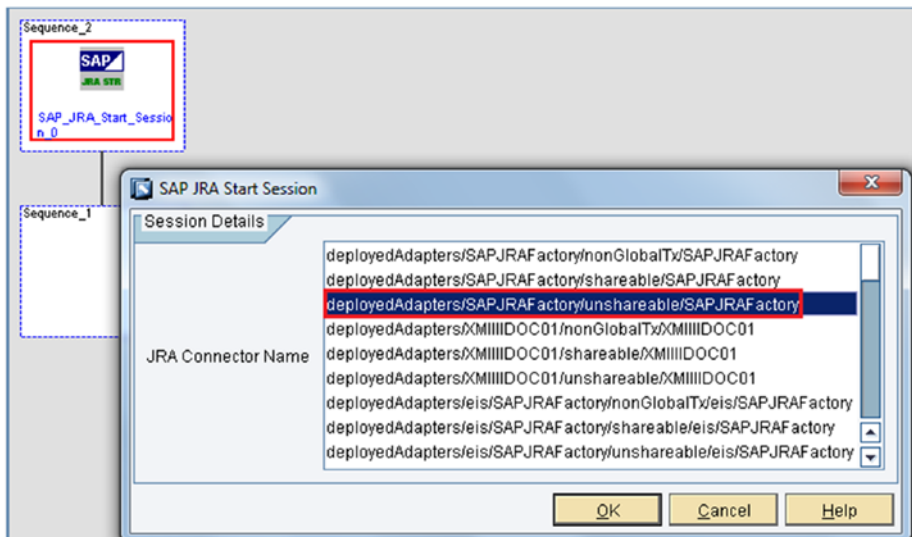

Figure 7-163. JRA factory connector list for start session action block
- **SAP JRA Start Session:** This action is to open a session between SAP MII and the SAP ERP Central Component (SAP ECC) using the SAP Java Resource Adapter (SAP JRA). Users have to select the configured JCA factory connection from the JRA Connector Name list, as shown in Figure 7-163.